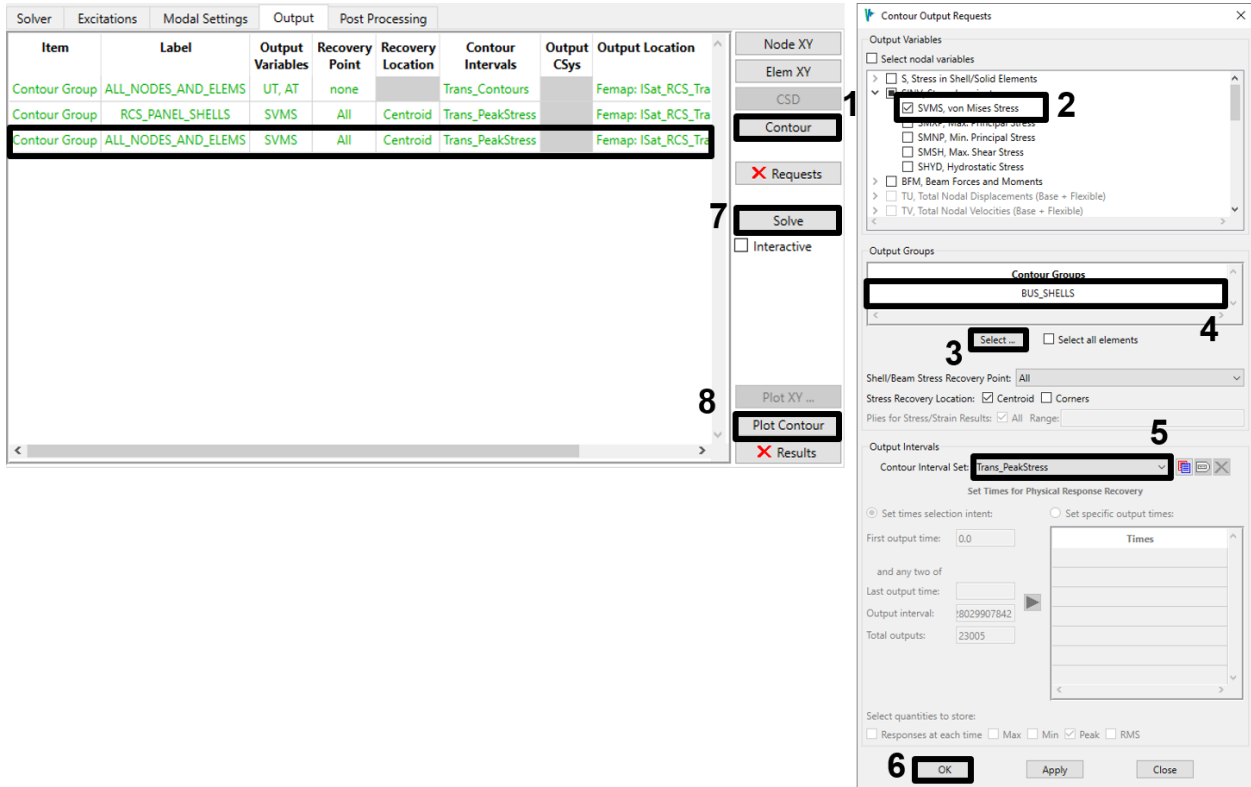
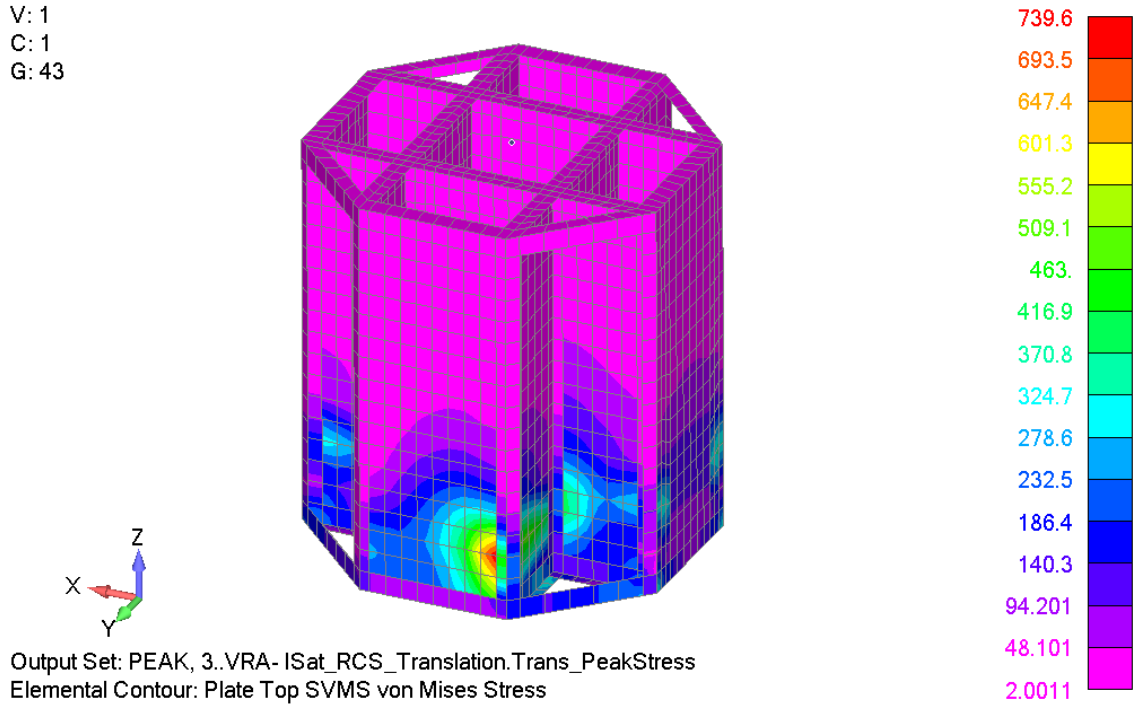

Figure 4-105. Select the BUS\_SHELLS contour request and plot its results.
Figure 4-106. Von Mises results with only the BUS\_SHELLS group displayed.
- There appears to be a significant stress concentration where the instrumentation package support attaches to the bus. Create a contour request for the peak stresses in the BUS\_SHELLS group with the same settings used for the RCS panels. Solve this new request, then select it in the table and click **Plot Contour** again (Figure 4-105). This time, display only the BUS\_SHELLS group in the contour plot (Figure 4-106). There is indeed a stress concentration, and the stress is nearly seven times higher than in the RCS panels.